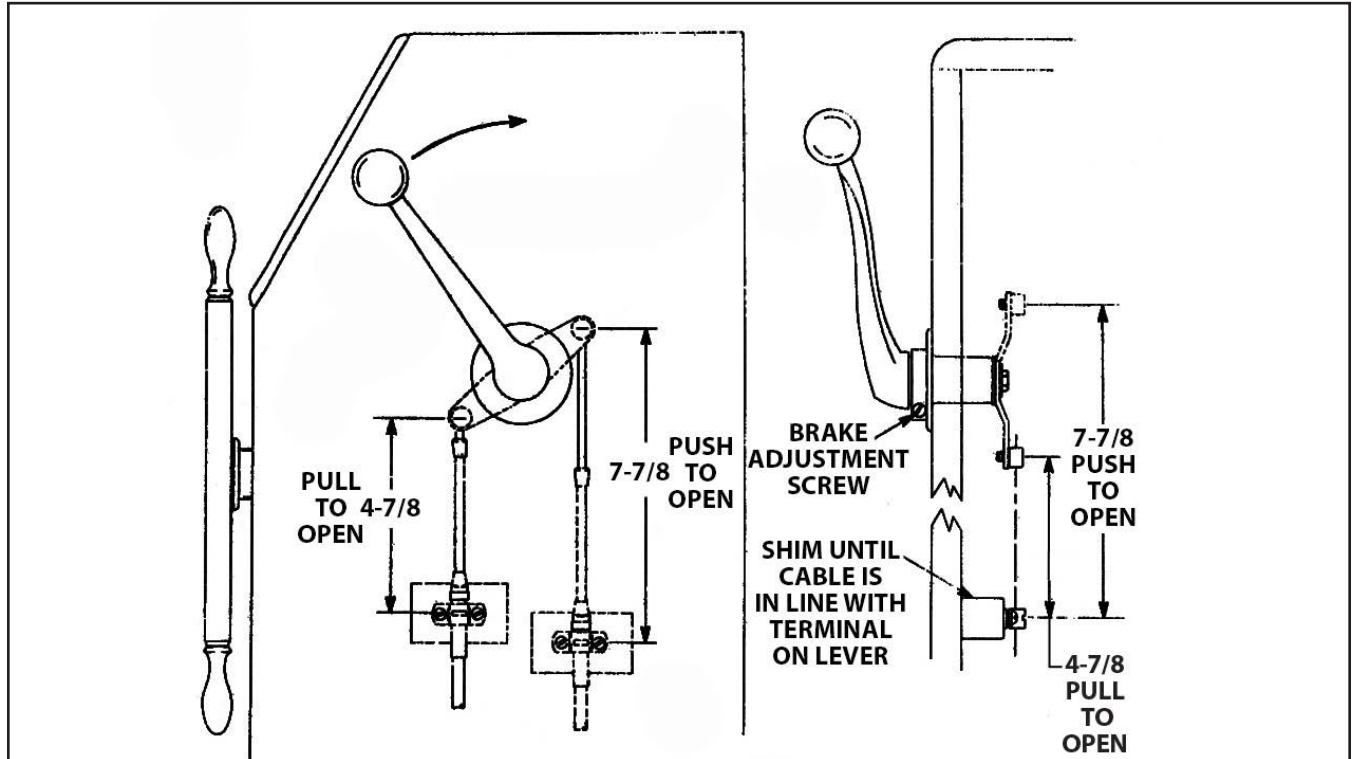

Figure 1.
Determine whether *PUSH TO OPEN* or *PULL TO OPEN* cable travel is required. Figure 1 illustrates the two basic throttle arm positions.
**STEP 2.** Remove cable terminal (14) from throttle arm (10). Thread terminal onto cable rod until 3/16" is through terminal. Hold terminal to prevent it from turning and tighten cable nut against terminal. Replace terminal in throttle arm and secure with cotter pin (16).
**STEP 3.** Mount cable clamp (13) and shim (15) in line with throttle arm (See Figure 1) and position so that movement of the cable sleeve from its center position is equal when the control head hand lever is moved from idle to full throttle. It may be necessary to shim further under the cable clamp as illustrated in Figure 1.